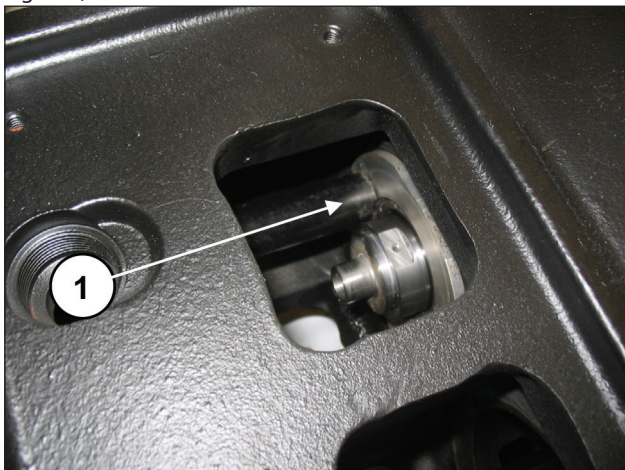
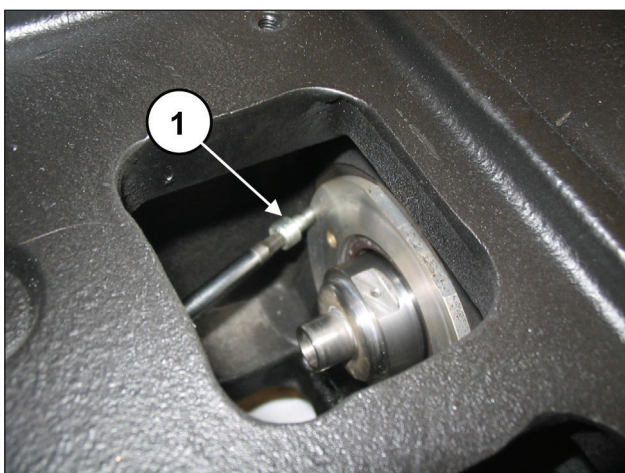

Fig. 177
Fig. 178
Make sure that the cover completely enters its seat (pos. ①, Fig. 177) being careful not to damage the lip of the seal ring. Screw in the oil seal covers using 2 x M6x14 screws (pos. ①, Fig. 178).